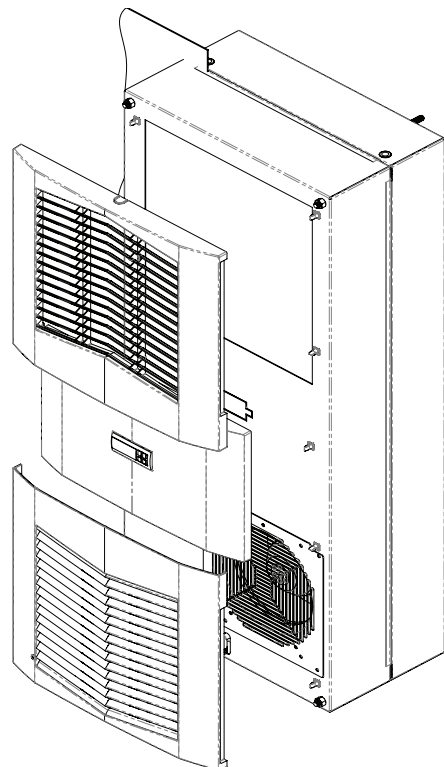

Figure 6
14. Push the louvered grille and, where applicable, the center panel, onto the front panel. See Figure 6 on page 9.